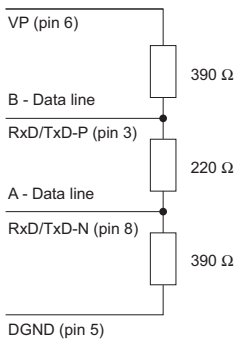

**Figure 8 PROFIBUS Cable Connection with Termination Resistors**
6. Connect the option to the network using PROFIBUS-DP-dedicated cables as shown in Figure 8.
Use only the input side cable entry as shown in Figure 8 when connecting both ends of the network. Most 9-pin D-sub connectors have a function for disconnecting the output side of the cable. Communication will not be possible between devices if the connector is reversed. Most connectors have arrows indicating the input and output sides.